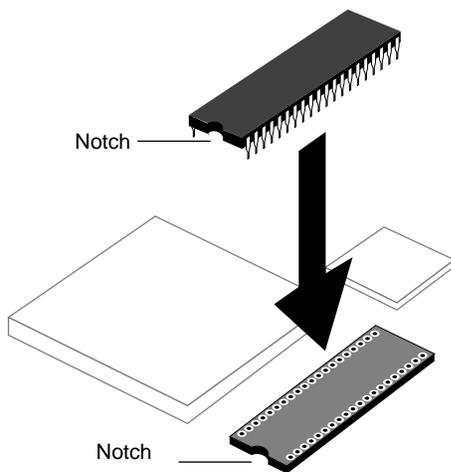

Figure 1-15 Lining Up the PROM Chip
- Grasp the new PROM chip. Orient it above the socket on the system board so the end with the semicircular notch lines up with the notch in the socket. (See Figure 1-15.)